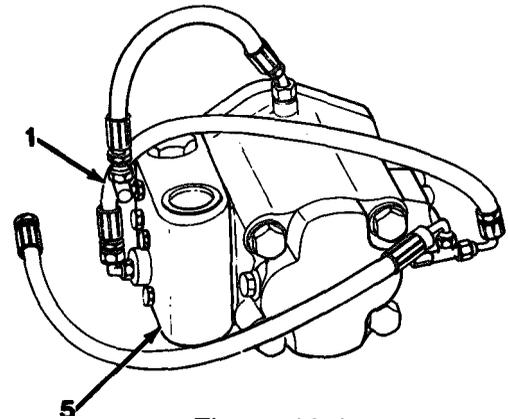

Figure 16-1
1. Disconnect hose (1) from winch brake valve assembly (5, Figure 16-1).